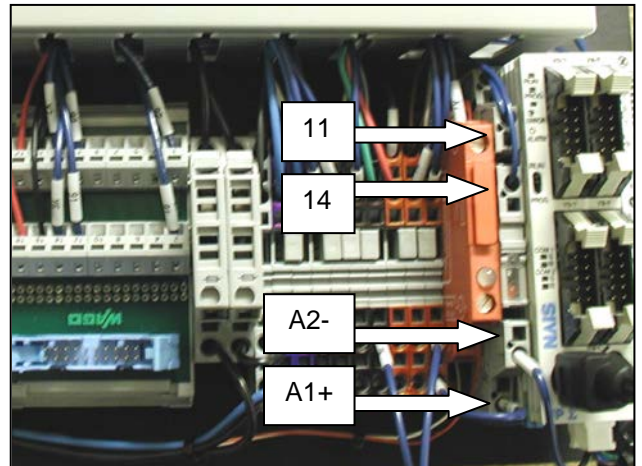

Figure 3-105. Grey Relay location
3. Locate Relay, 24V SPDT (Single Pole Double Throw) (Figure 3-105).